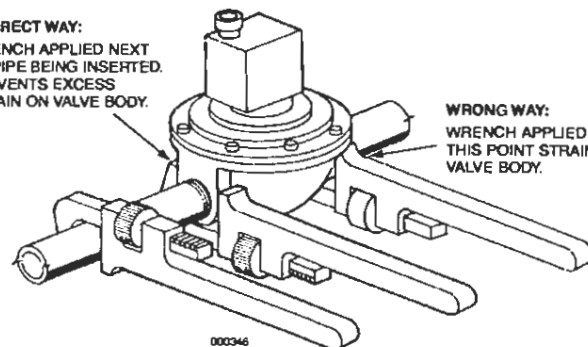

FIGURE 41
Install mechanical gas valve to its selected location in gas line so that it ensures safe shut-off to all predetermined appliances being protected upon actuation of the system. Mechanical gas valves may be mounted in any convenient horizontal or vertical position. See Figure 41.
- c. Wrench tighten pipe to gas valve. **DO NOT USE GAS VALVE AS A LEVER WHEN INSTALLING OR VALVE DAMAGE MAY OCCUR.** See Figure 41.